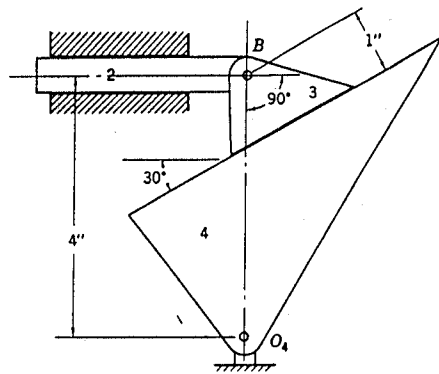

Fig. 1
2. For the planar PRPR mechanism shown in Fig. 1, the velocity of slider 2 is 10 ft/s and the acceleration is 200 ft/s^2 , both toward the right.